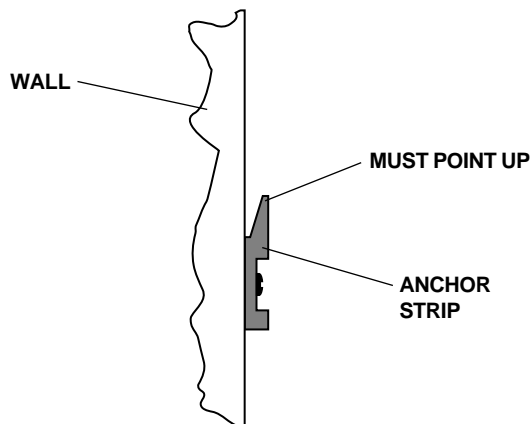

FIGURE 3
9. Place the anchor strip against the wall. Center the anchor strip, as shown in *Figure 3*, between the marks made for the ends of the cabinet. Mark each stud location on the anchor strip.